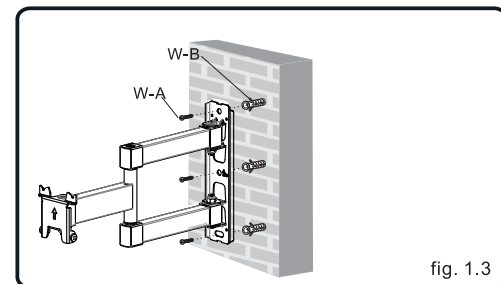

fig. 1.3
- . Pre-drill these holes with a 10mm masonry bit to at least 60mm in depth, Insert a Concrete Anchor (W-B) into each of these holes. Attach the Wall Plate to the wall using 3 lag bolts (W-A), as in fig. 1.3. into each of these holes. Attach the Wall Plate to the wall using 3 lag bolts (W-A), as in fig. 1.3.